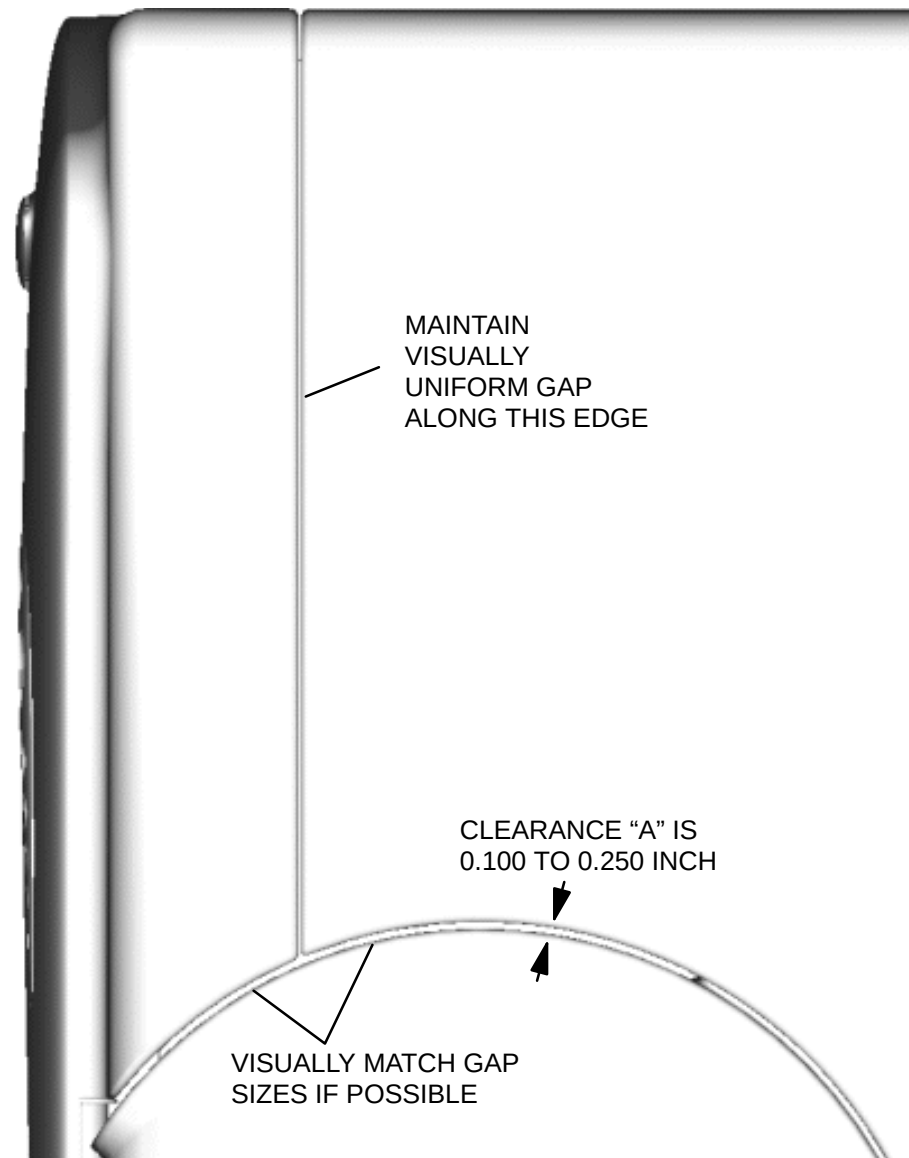

FIGURE 14 CLEARANCE "A" CHECK
5. Check clearance "A" between the Upper Right Column Cover and Lower Right Column Cover. Also check the uniformity of the gap between the Upper Right Column Cover and the Upper Front Cover. Refer to Figure 14.